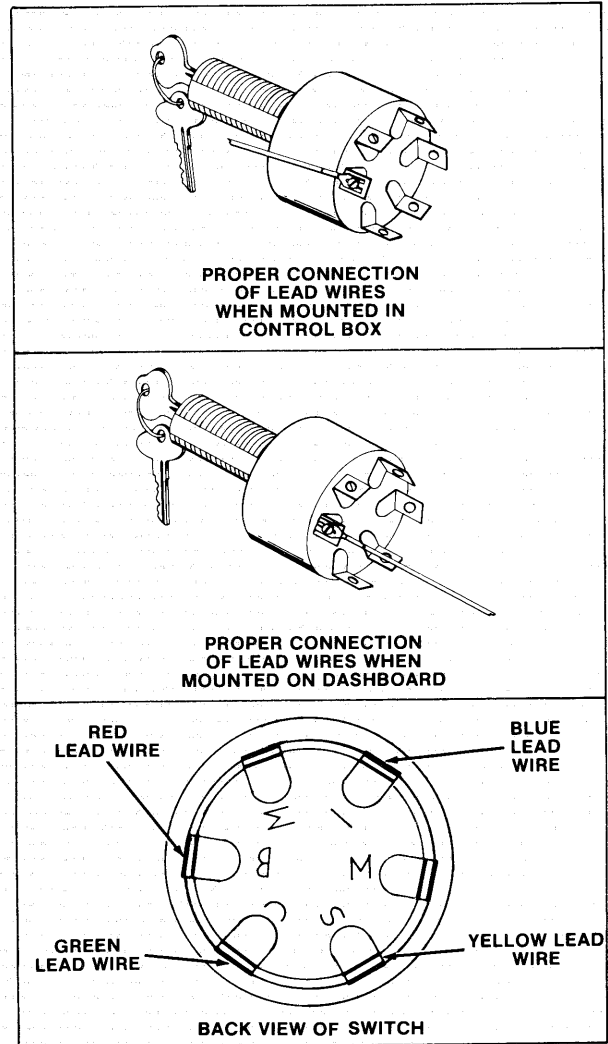

Figure 8—Connections of Lead Wire to Switch
- A. Connect lead wires to ignition switch as shown in figure 8.